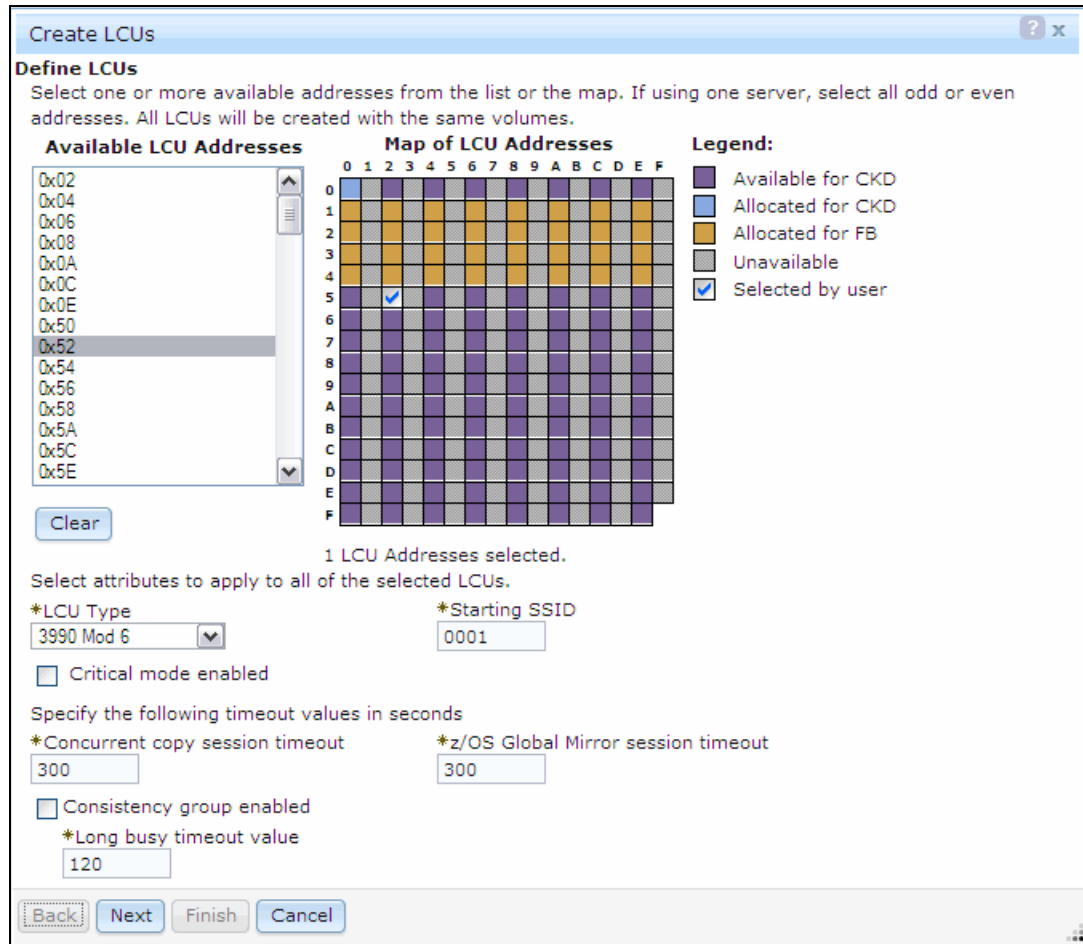

Figure 13-59 Create LCUs window
3. To create new LCUs, select **Create new LCUs with volumes** from the tasks list. The Create LCUs (Figure 13-59 on page 350) window opens.